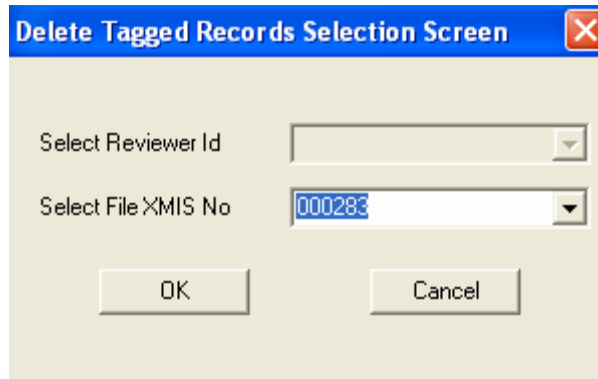

Figure 121: Record Selection Screen/ by XMIS Number
3. Third choice is to select the File XMIS from the drop down list; this will gray out the Select Reviewer Id drop down box and display all the records related to that XMIS No, similarly to above, records can be deleted at once or one at a time. An example of this step is shown Figure 121: Record Selection Screen/ by XMIS Number.